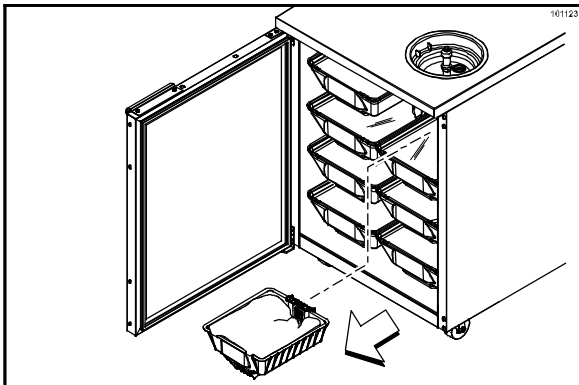

Figure 71
- Remove the product bins. (See Figure 71.)